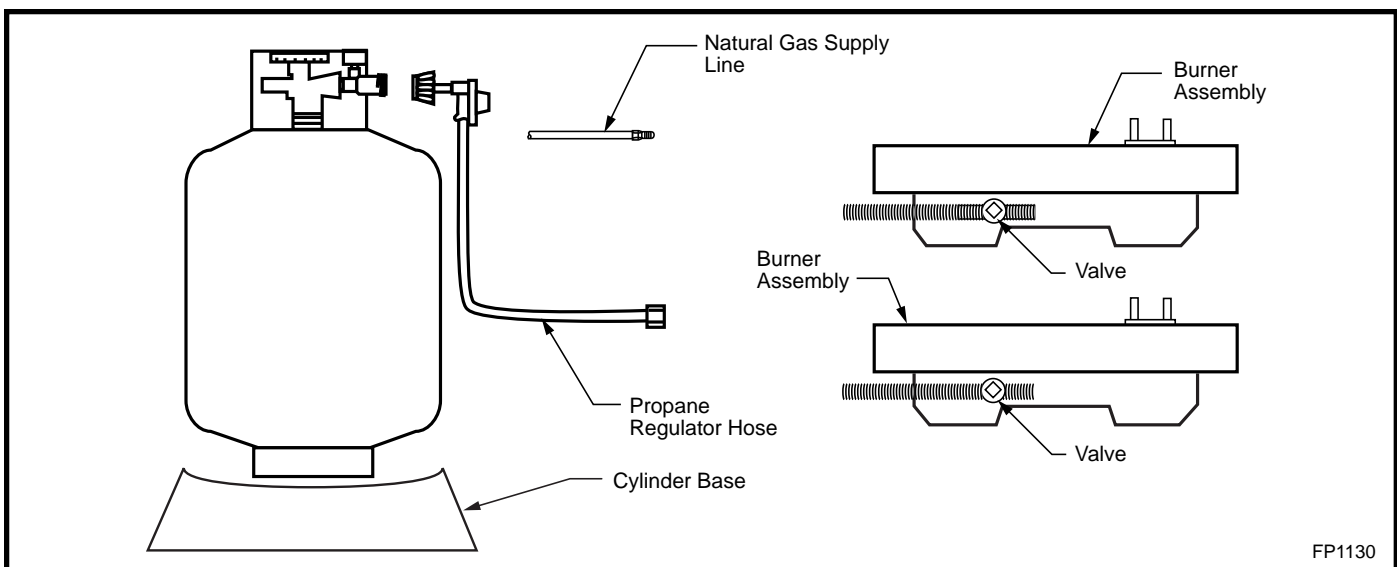

Fig. 3 Gas line connection.
Connect the incoming gas supply line to the on/off gas valve of the appliance. (Fig. 3) Make certain **ALL** gas connections are tight. Test for leaks. Use a 50/50 solution of liquid soap and water to test for leaks at gas fittings and joints. Apply water/soap solution with a brush only - *do not over apply*. **NEVER test with an open flame.**
7. When connecting regulator assembly to the tank valve, hand tighten nut clockwise to a positive stop. DO NOT use a wrench to tighten. Use of a wrench may damage quick closing coupling nut and result in a hazardous condition. (Fig. 3)